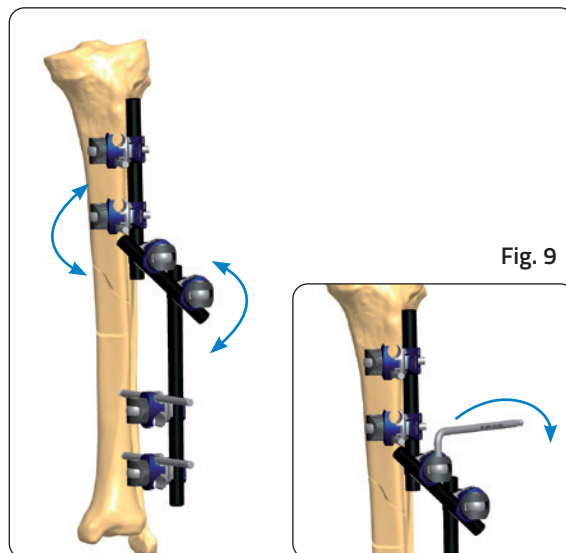

Fig. 9
9. A third rod is then used to join the first two rods together by 2 more clamps, which are not yet tightened. The surgeon now manipulates the fracture, if possible under X-ray control. When the position is satisfactory, the assistant locks all the clamps firmly by tightening the cams with the Universal T-Wrench or the 5mm Allen Wrench (Fig. 9).